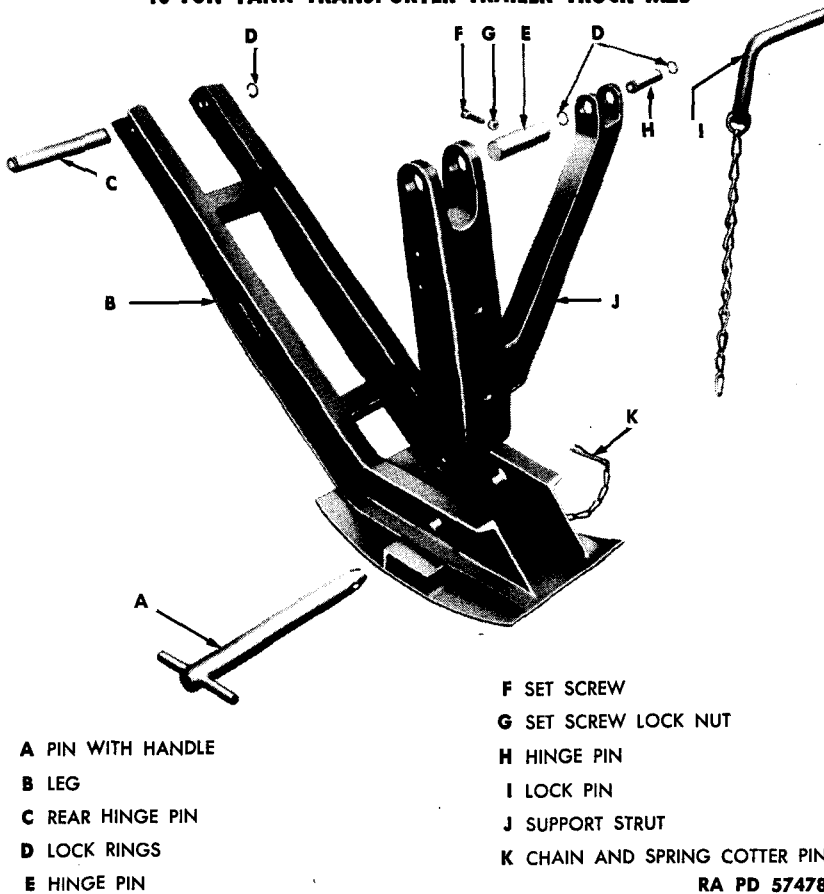

Figure 20 — Supports — Disassembled
a. **Description.** The supports (fig. 20) are of the fold-up type, and are mounted on the trailer main frame at the front of drop in frame. They support the front of the trailer when the trailer is disconnected from the towing vehicle.
d. Assembly (fig. 20). Place support leg between the two mounting brackets which are welded to trailer frame. Install hinge pin. Place a lock ring over each end of hinge pin, making certain they are seated in the grooves provided. **NOTE:** *Inside diameter of lock rings is supposed to be smaller than the outside diameter of hinge pin. However, when removing lock rings they are generally spread open*